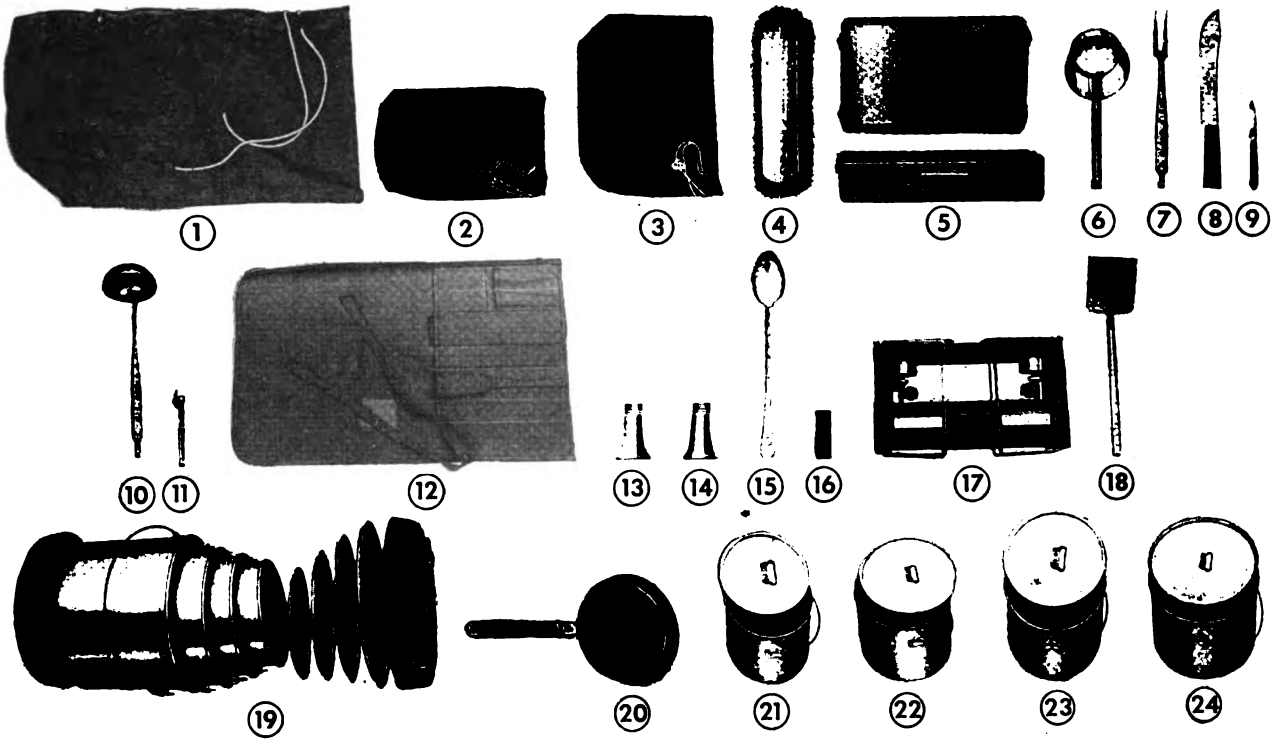

Figure 14. Outfit, cooking, 20-man (64-O-300).
a. COMPONENT PARTS. This outfit (see fig. 14) consists of the following items: